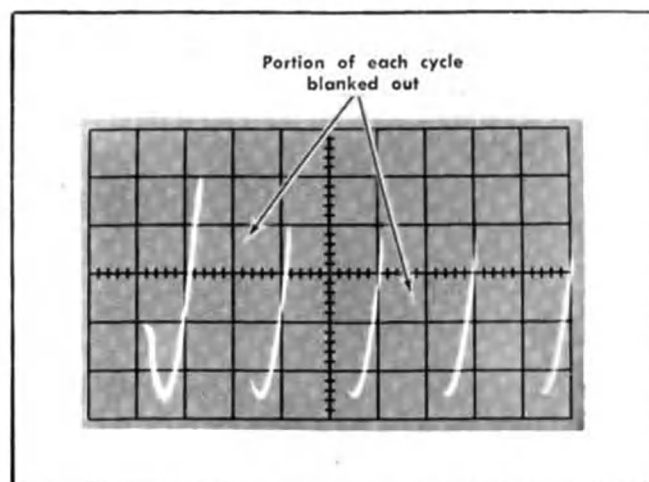

Fig. 6-20. Typical CRT display when checking external blanking.
e. CHECK—CRT display for blanking of a portion of each cycle of the waveform (see Fig. 6-20). The INTENSITY control setting may need to be changed to show blanking.